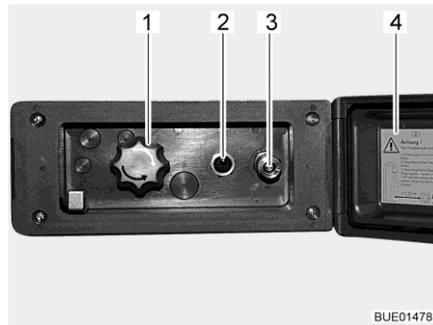

Fig. 190 External shower connection point
- Unlock and open the cover (Fig. 190,4).
- Attach hose of the external shower to the quick closure (Fig. 190,3).
- Switch on the water pump using the switch (Fig. 190,2).
- Adjust the water temperature with the rotary knob (Fig. 190,1) as desired.
- Switch off the water pump using the switch (Fig. 190,2).
- Close the cover (Fig. 190,4) and lock with key.
- Turn knob (Fig. 190,1) to the central position.